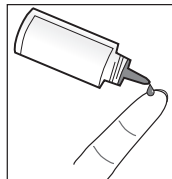

Figure 18
4. Squeeze the bottle again to get a second drop onto a clean, non-absorbent surface or on your clean fingertip. See Figure 18.